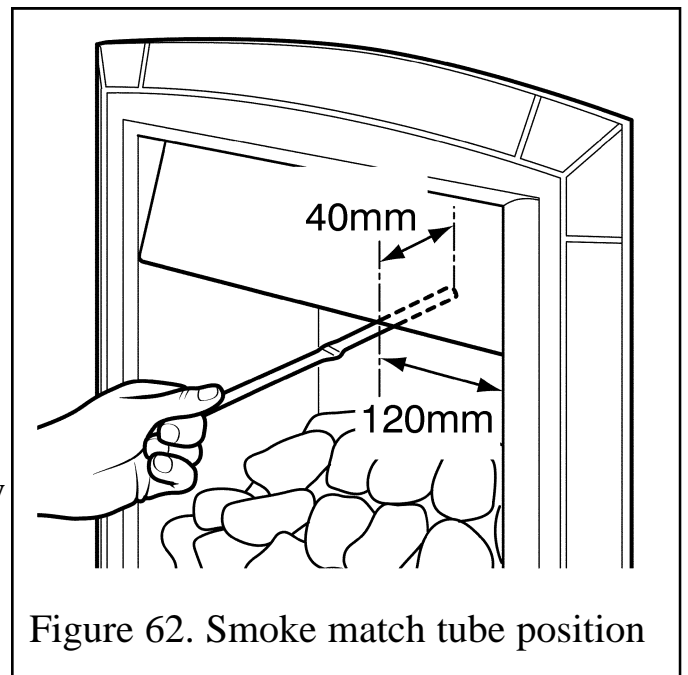

Figure 62. Smoke match tube position
4. The smoke match should be placed horizontally into the hotbox at the right hand side (See figure 62).